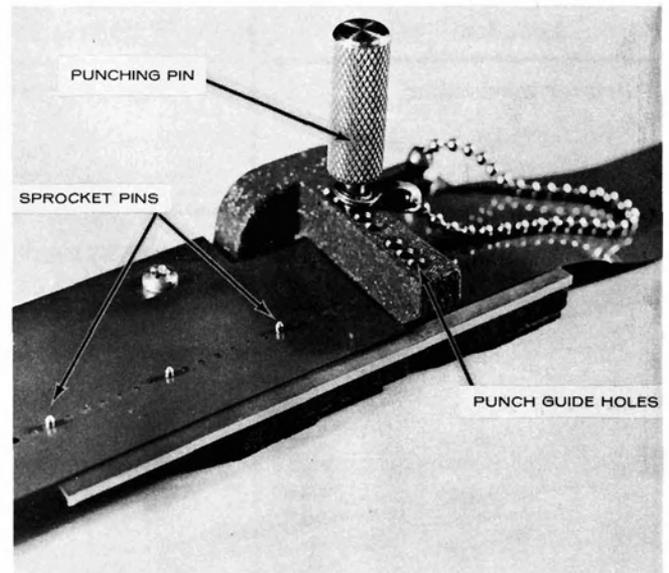
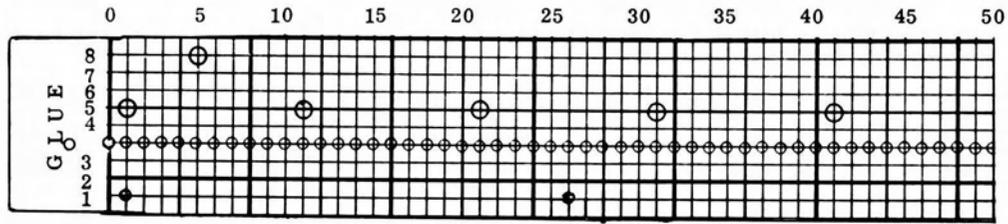

Figure X-6. Hand Punch for a Vertical Format Loop
Figure X-7. Sample Tape for Vertical Format Loop
3. Place the tape in the hand punch (Figure X-6) with the aluminum-colored side of the loop material down. Position the tape so that the sprocket hole which is to represent the first line of print is over a punch guide hole. It may be of help to note that the distance from the punch guide holes to the first sprocket pin is 8 sprocket holes on the tape and the distance from the first to the second and from the second to the third sprocket pin is also 8 sprocket holes. Place the punching pin in the hole corresponding to the channel to be used for controlling the slew to the top of the page and press the punch pin until it punctures the tape. It is customary that channel 8 be used for controlling the slew to the top of the page. Channel 8 is on the edge of tape farthest from the sprocket holes, as indicated in the tape sample, Figure X-7. Carefully lift the tape off the sprocket pins and advance it through the hand punch until the next punching position is reached.